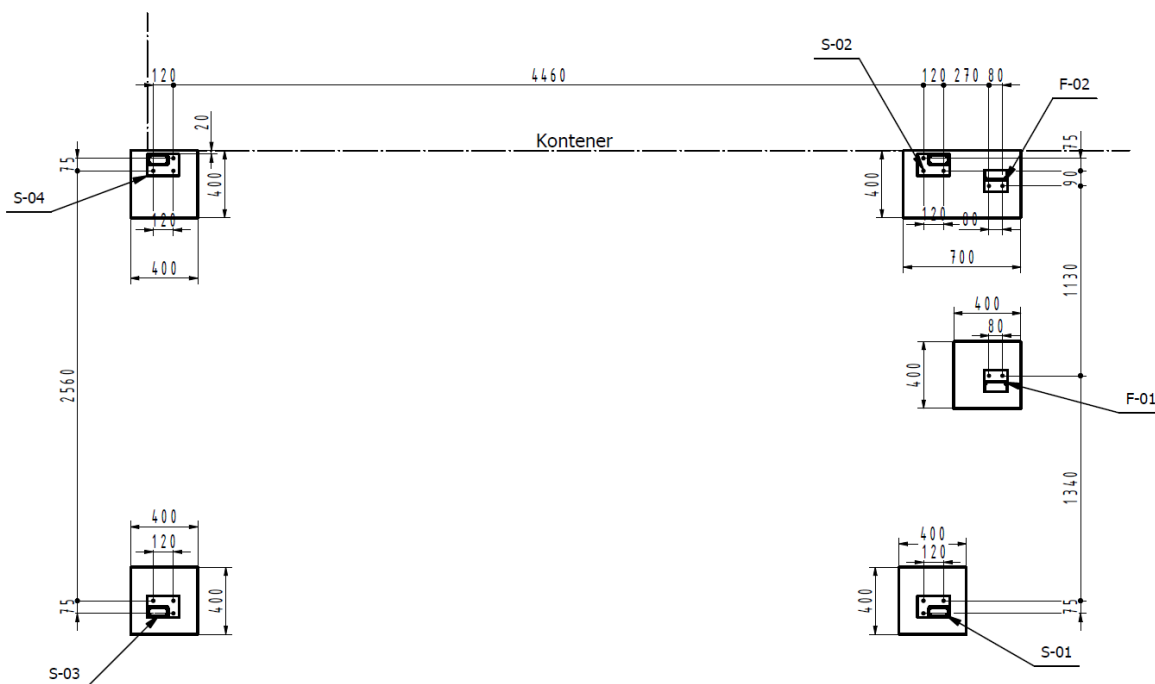

Fig. 6. Schematic arrangement of holes for anchors
- Scribe the holes for mounting anchors according to the diagram in Fig. 6.